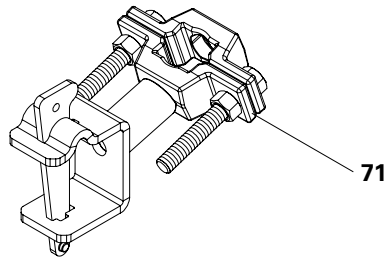
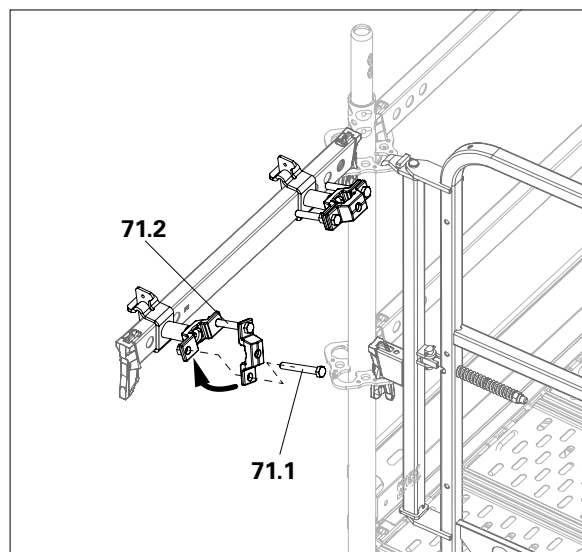

Fig. A9.03
Fig. A9.03a
3. Swivel up the pipe clamp part and tighten with screws. (Fig. A9.03 + Fig. A9.03a)